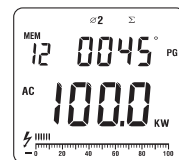

Figure 12
- If necessary, press Σ to get the sum of watts as figure 12.